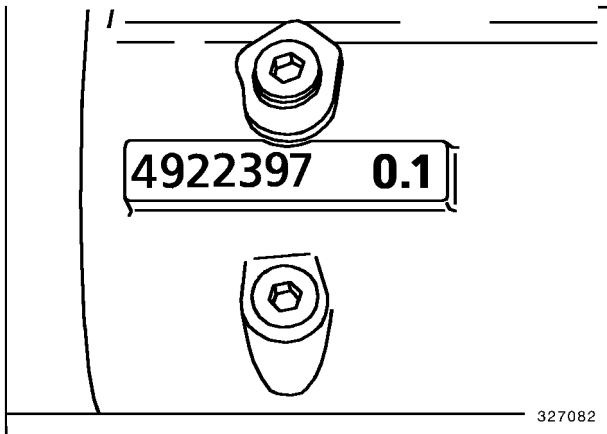
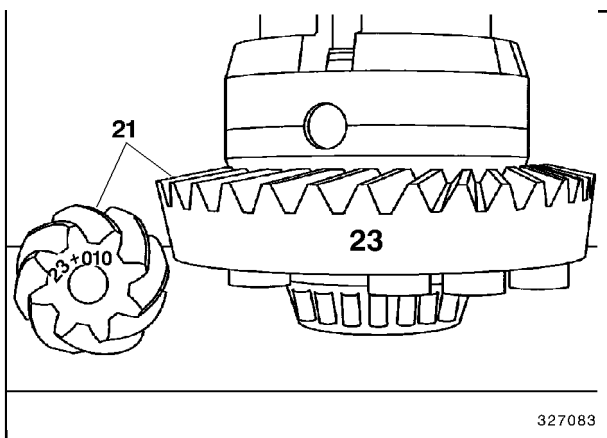

Fig. 52
Fig. 53
- a1 : For deviation to be read off housing (27), refer to Fig. 52.
- b : Measure width of tapered roller bearing (36).
- c1 : Read deviation (+ or -) off pinion shaft (21). Refer to Fig. 53.